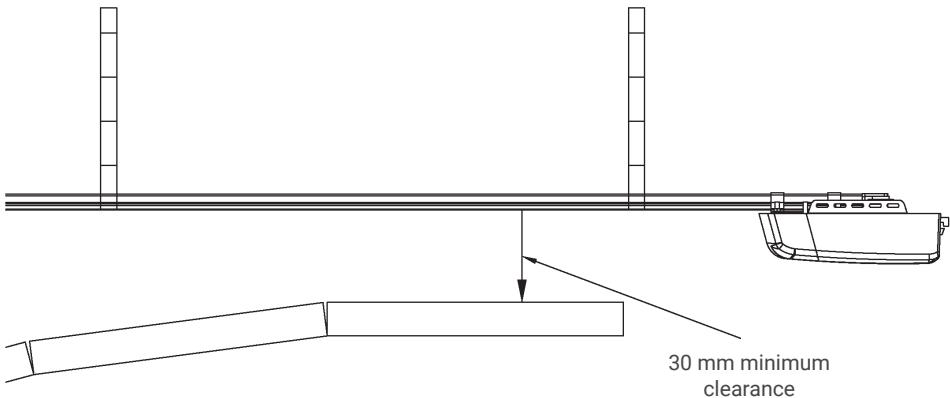

Fig. 2
5. There should be a gap with a minimum height of 30 mm at its nearest point between the bottom of the metal rail and the upper part of the garage door (Fig.2).